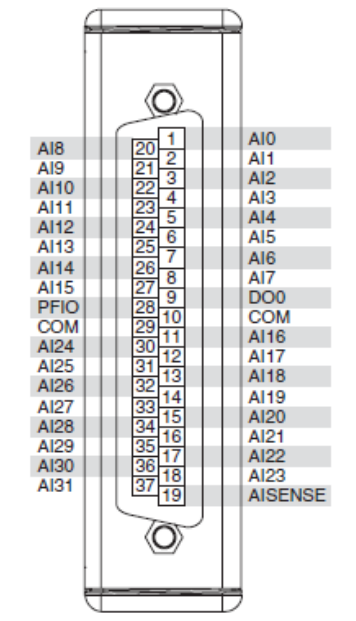

Fig. 49 NI9205 Signal Connector
This module is used to measure analog input (AI) signals (see Table 32). The first three AI ports of NI9205 module is connected to the first three ports of the NI9264 module (Module 1) (see Fig. 49 and Fig. 50)